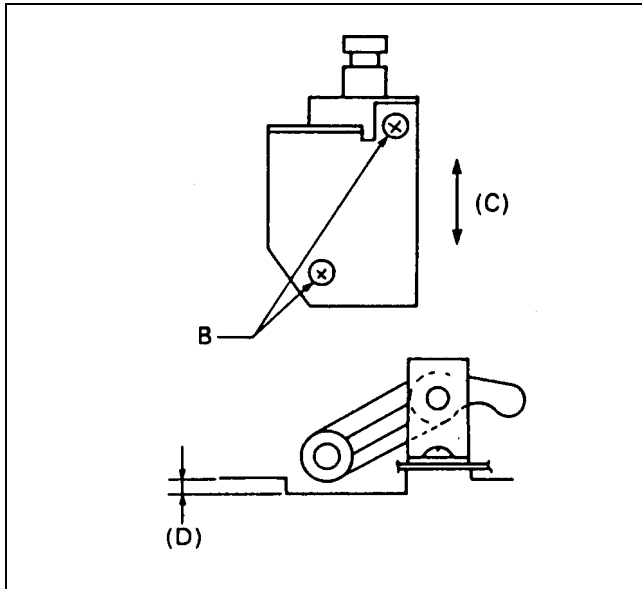

Figure 7-22-2 Stopper Solenoid Position Adjustment
2. Loosen 2 screws (B), move Stopper Solenoid to direction (C) so that the clearance (D) is $0.2 \pm 0.1\text{mm}$ as shown in figure 7-22-2.
3. After adjustment, tighten 2 screws (B).